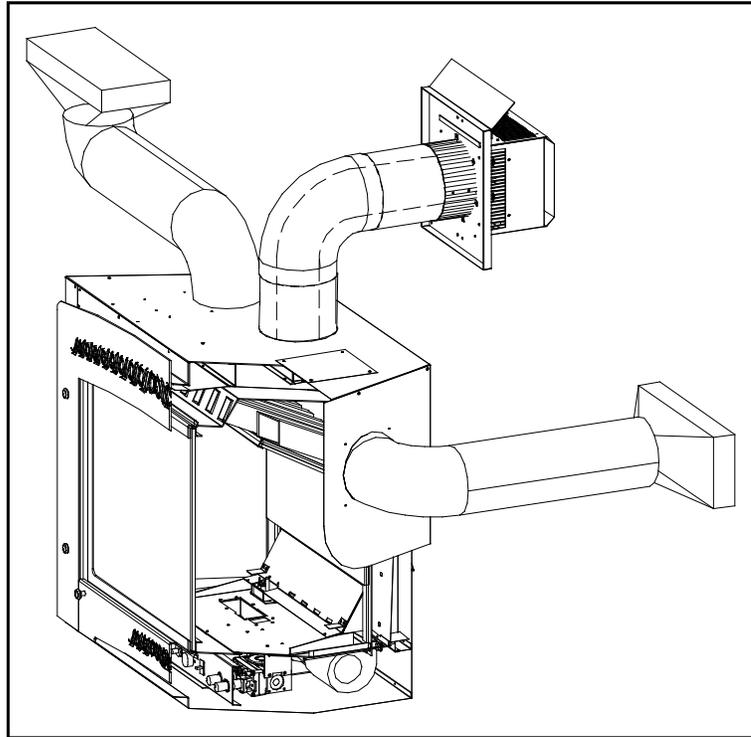

Figure 32. Heat Dumping Options.
The option of ducting allows heat from the fireplace to be transferred to a different area. The maximum total length for the ducting is 20 feet (6.1 m). There are four (4) duct outlets that can be used (see Figure 32), however, the blower puts out 200 cfm no matter how many ducts are used. Therefore, the more ducts there are, the less air goes through each one. A short, straight duct maximizes its heating ability as air in the ducts is restricted by the length and number of bends in the pipe.